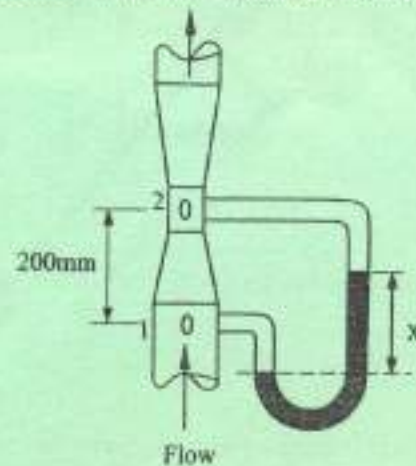

Fig 6
- (c) A 150 x 75mm venturimeter is connected in a vertical pipe conveying a liquid of relative density 0.8 as shown in Figure 6. The pressure connection at the throat is 200mm above that at the inlet. If the actual discharge is 50 litres per second, and  $C_d = 0.96$ , determine the pressure difference between the inlet and the throat in  $N/m^2$ . (5 marks)